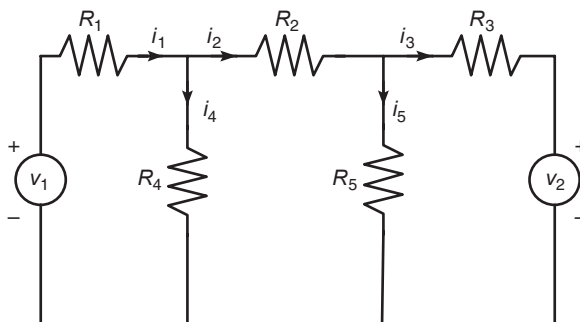

Figure P37
37. The equations describing the circuit shown in Figure P37 are